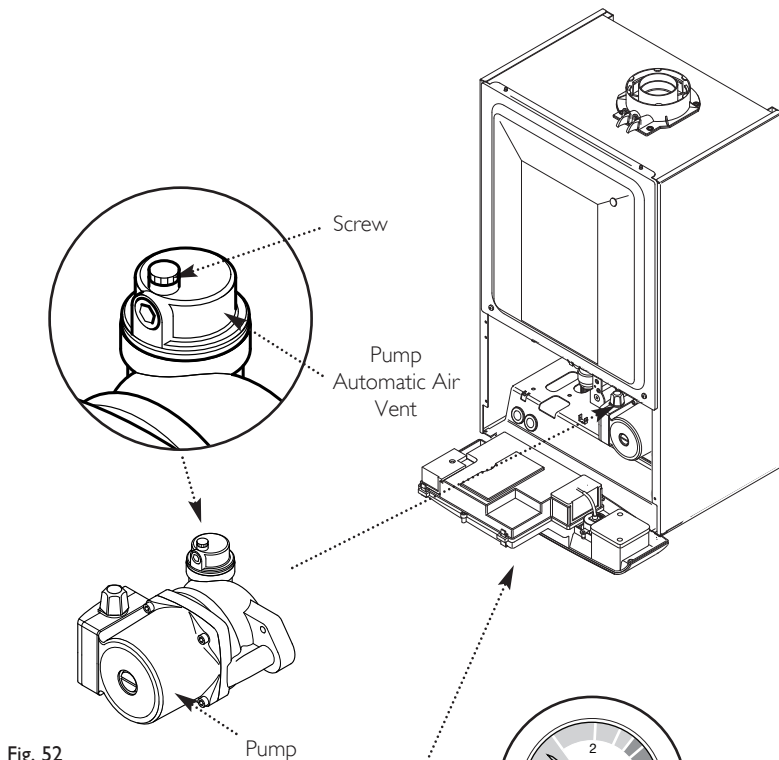

Fig. 52
6. Open the screw on the automatic air vent on the pump body (Fig. 52).